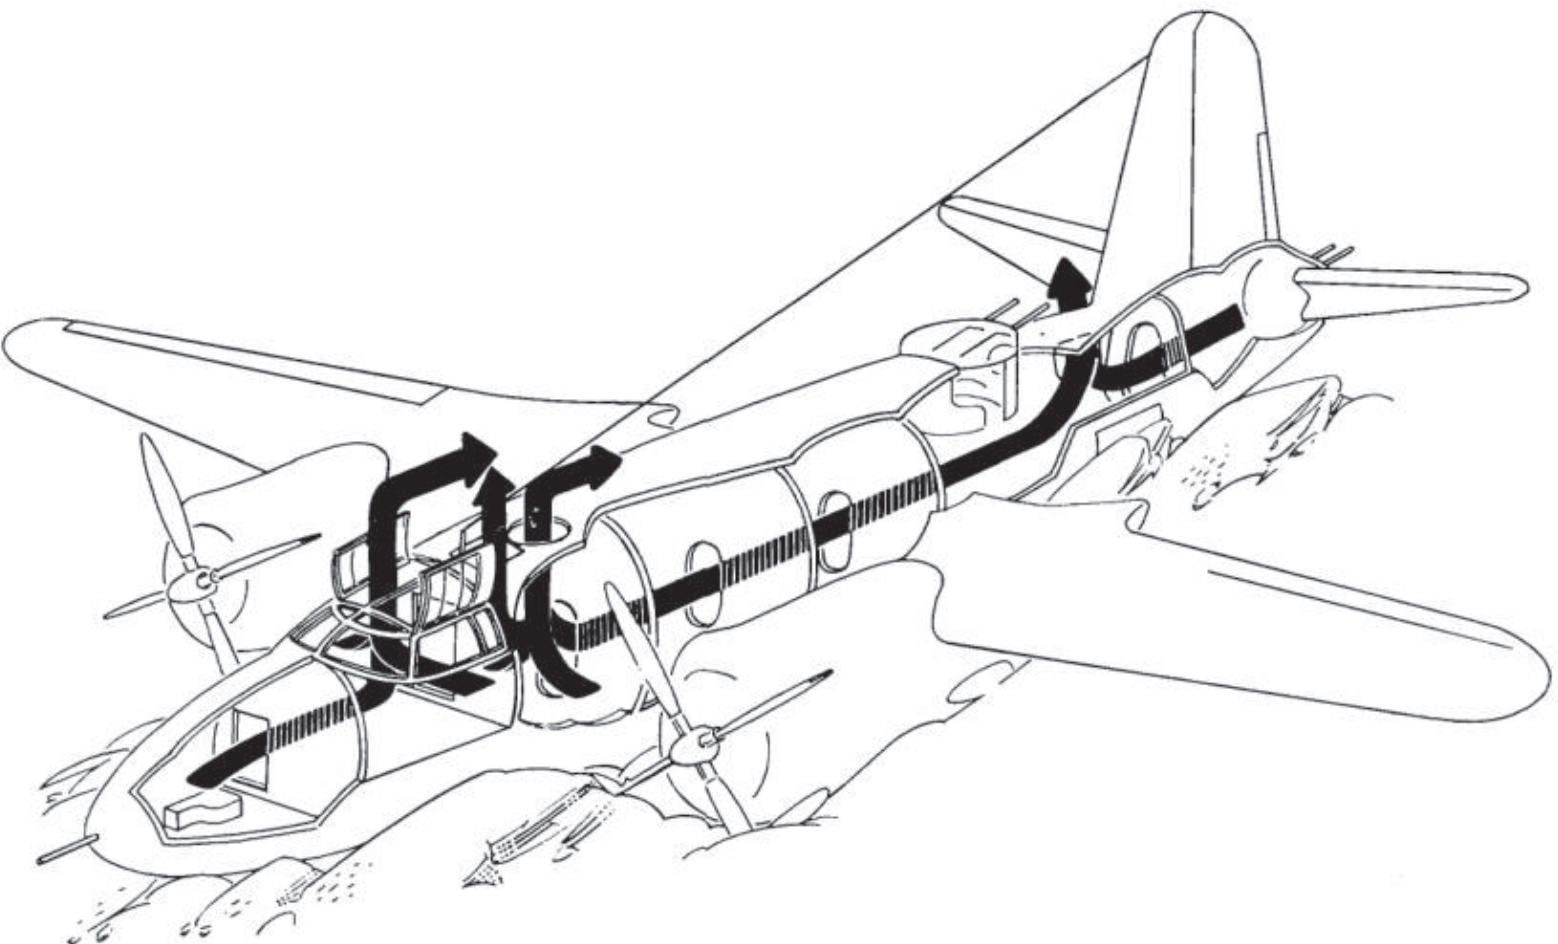

Figure 73 — Emergency Exits on Ground
(See figure 73.)
b. EXIT FROM FORWARD COMPARTMENTS. (See figure 73.)—Occupants of the forward compartments leave the airplane through either the pilot's upper escape hatch or through the navigator's hatch.
c. EXIT FROM AFT COMPARTMENTS. (See figure 73.)—Occupants of the aft compartments proceed forward through the bomb bays and exit through the navigator's hatch.